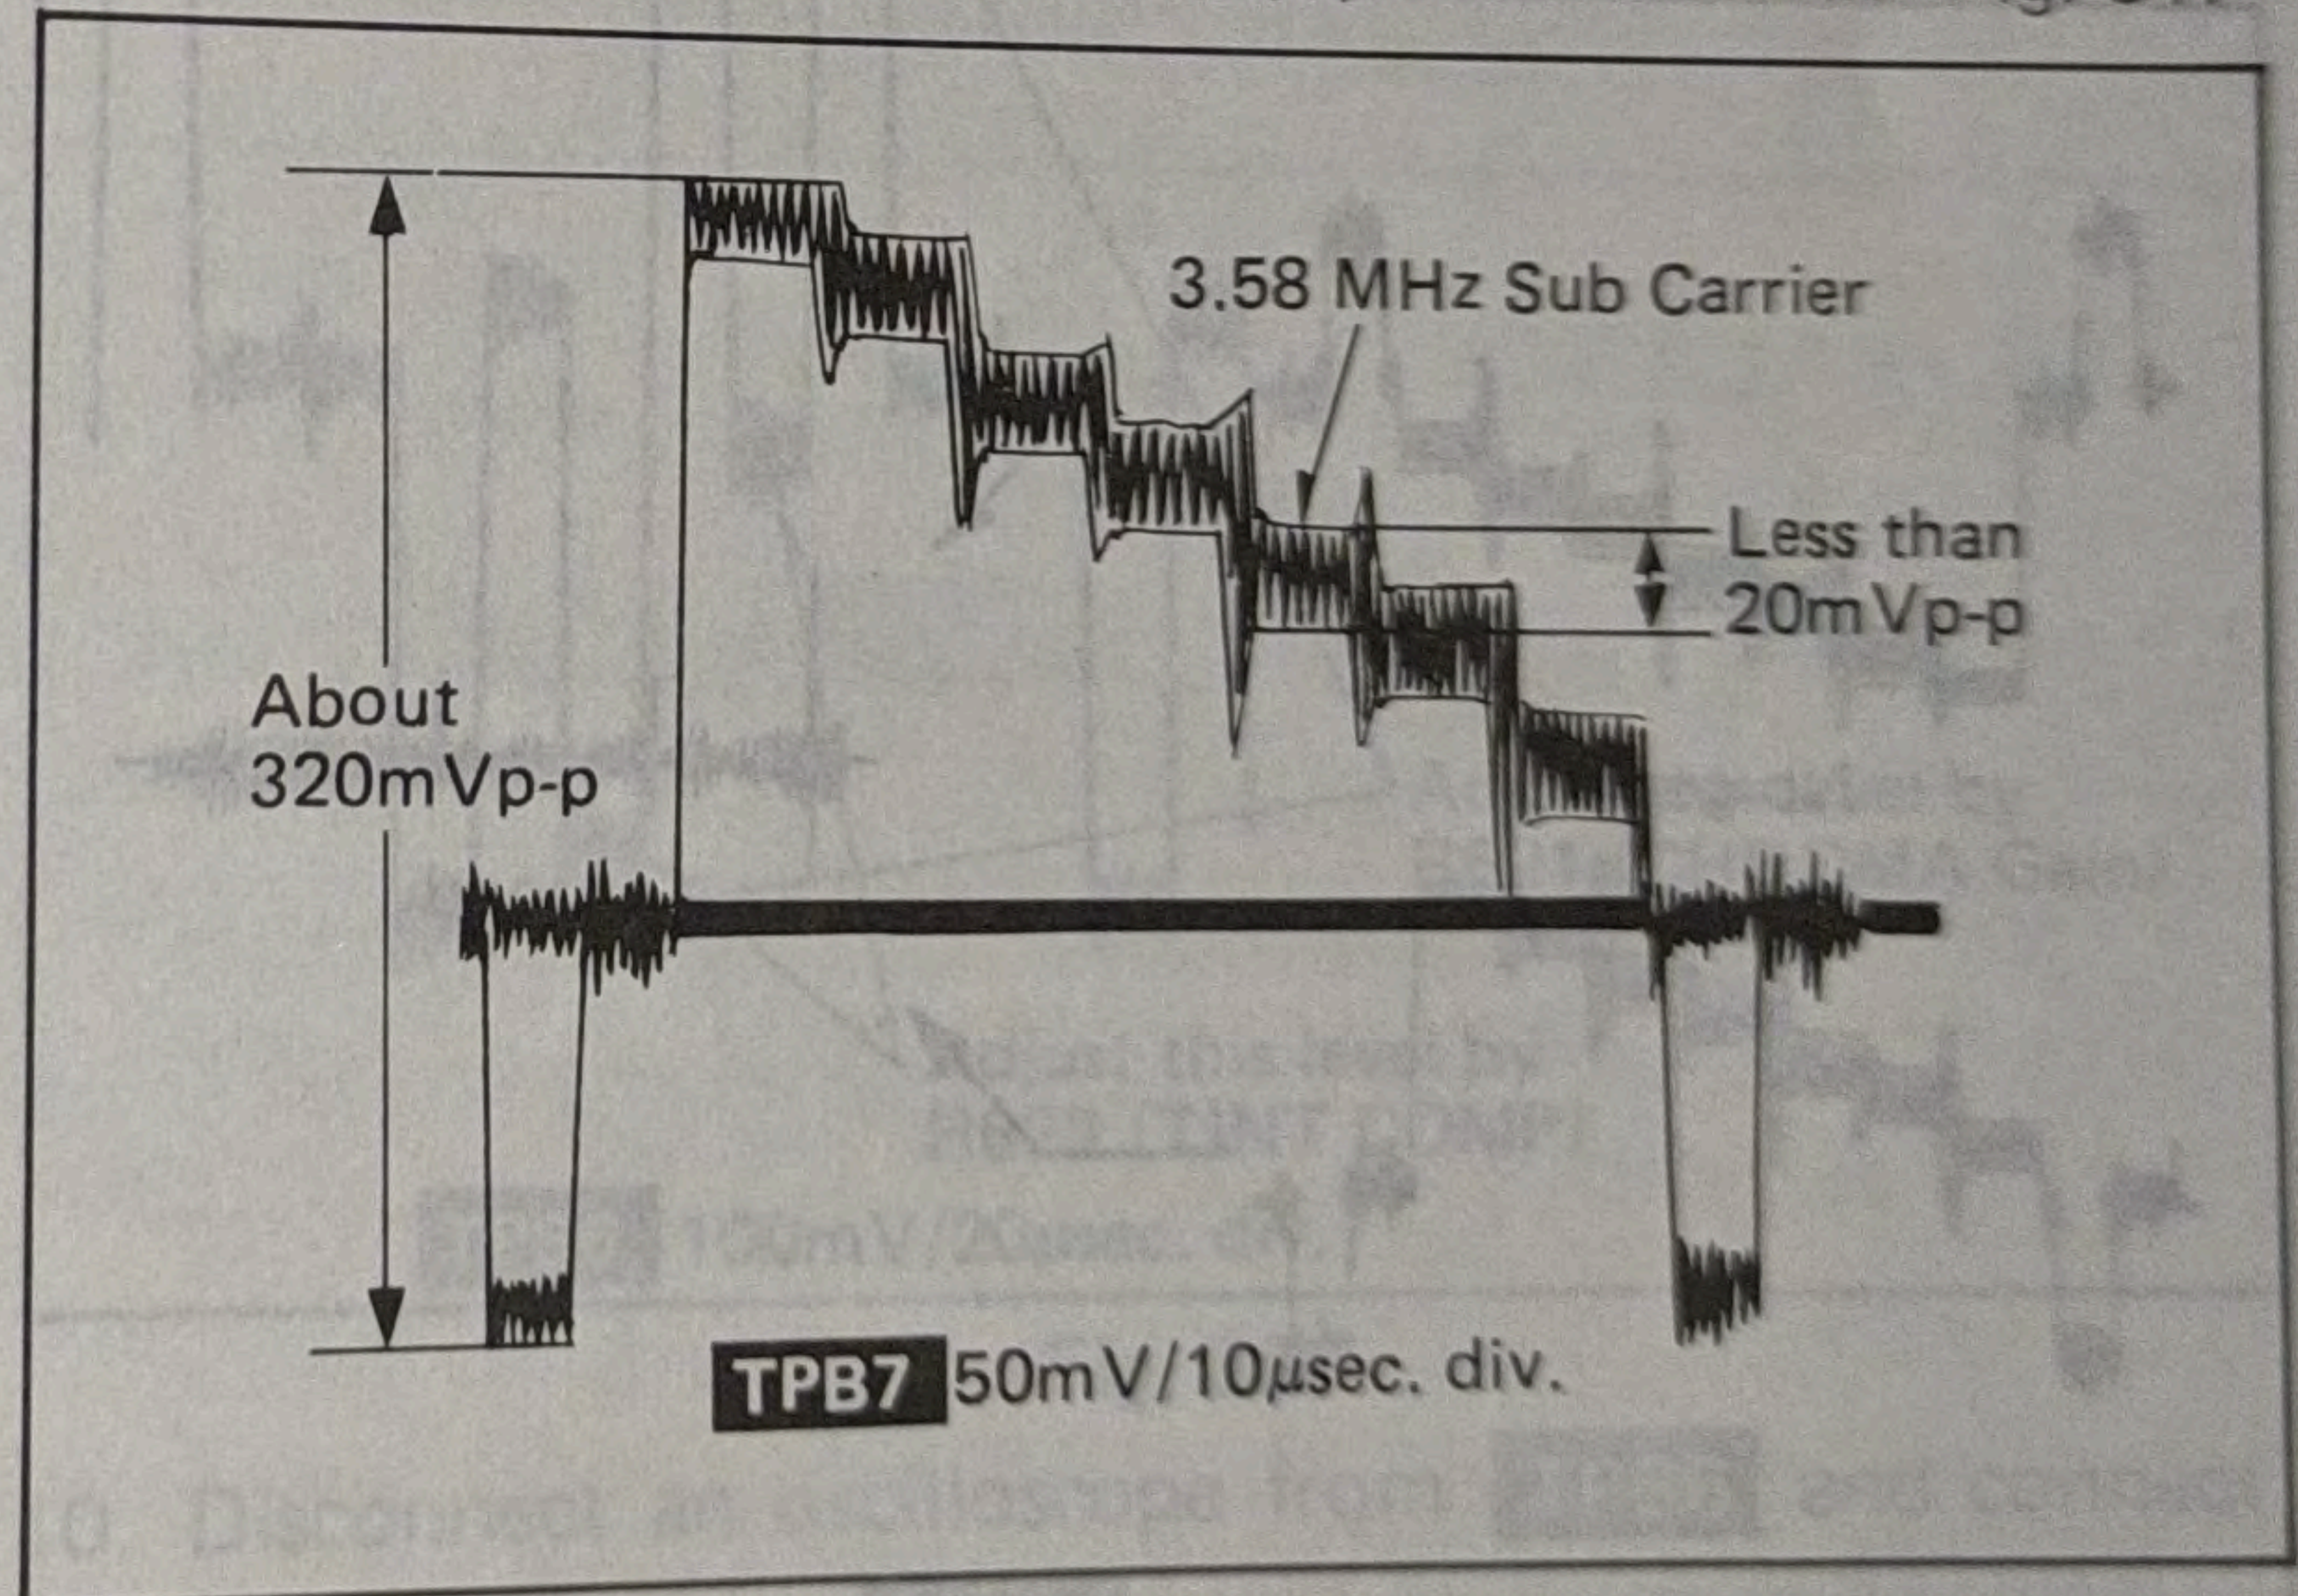

Fig. 31
11. Confirm that 3.58 MHz sub carrier portion of the magenta is less than 20mVp-p as shown in Fig. 31.